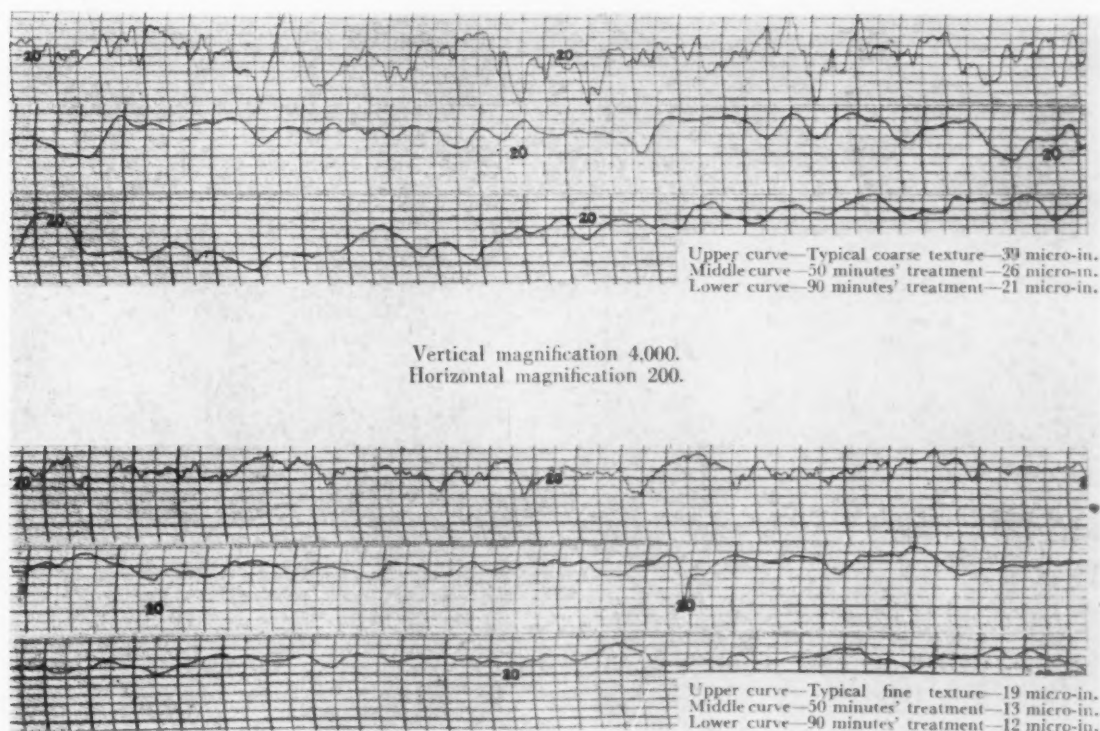

Fig. 8. Talysurf records of specimens before and after treatment.
Specimens  $2'' \times 1'' \times \frac{1}{4}''$  thick were prepared from normalized lead-free mild steel. One face of each was ground for half its length with a texture of 40 micro-inches and for the remainder with a texture of 20 micro-inches. The direction of grinding was parallel to the  $1''$  edge of face. Each specimen was provided with a small hole for suspension and a stamped identification mark. The texture of every specimen was recorded on both fine and coarse areas by means of the integrating meter of a Talysurf instrument. Three specimens were investigated in detail and Talysurf records were drawn on both textures of each. A typical pair of these records is reproduced in Fig. 8 (upper curve of each group).
2) are included in Fig. 11 for comparison. The determinations of surface texture, thickness and flatness were repeated (Table III) and Talysurf records were taken of the three typical specimens previously examined. The records for the 50 minute and 90 minute specimens are reproduced in Fig. 8. Photographs were taken to indicate the comparative reflectivity of the treated specimens (Fig. 12) and photomicrographs  $\times 100$  were also taken to illustrate the condition of both coarse and fine textures after treatment (Fig. 10). The
It is apparent from Fig. 12 that neither the coarse nor the fine textures were completely smoothed by treatment for times up to 90 minutes. This observation is confirmed by the Talysurf records (Fig. 8), which do, however, indicate that finer textures of probably 10 microinches and under may be effectively smoothed by the treatment. Small irregularities of this order, superimposed as a secondary texture on the ground surfaces, were removed, while the general texture was only partially smoothed. The records shown in Fig. 8 were taken on coarse and fine textures (1) as ground, (2) after 50 minute and (3) after 90 minute immersion. Further work is proposed using specimens prepared on finer abrasives to give textures of the order of 10 microinches and under.